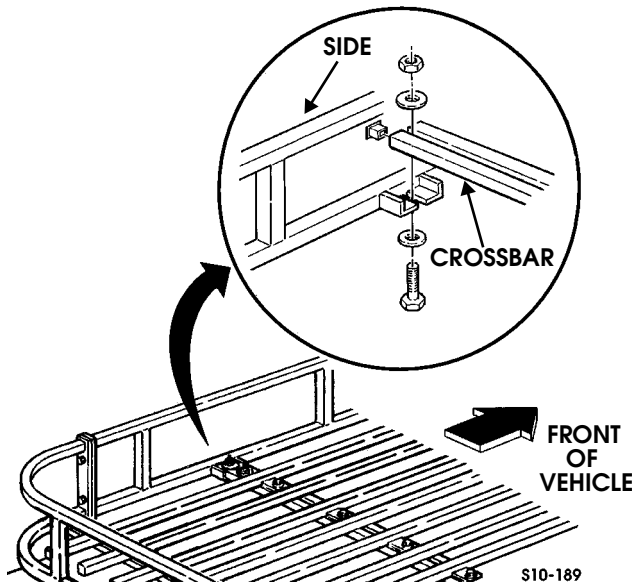

Figure 13-55: Roof Rack Crossbar
3. Remove four locknuts, washers, bolts, washers, and crossbar from sides (Figure 13-55).
1. Install crossbar on sides with four washers, bolts, washers, and locknuts. Tighten locknuts to 25 lb-ft (34 N•m) (Figure 13-55).